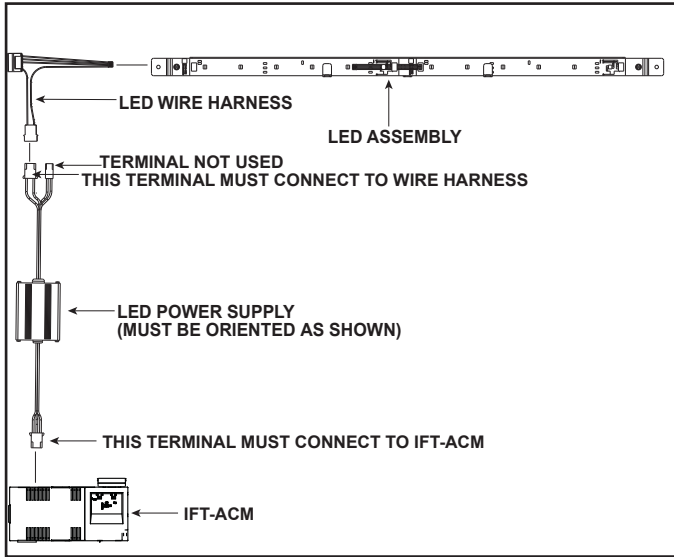

Figure 2. LED Wiring Diagram
NOTICE: Prior to performing Step 6 and Step 7, ensure the LED power supply is oriented as shown in Figure 2. Damage to LED power supply will occur if installed incorrectly.
6. Locate and install the LED power supply. Remove the rubber plug from the connector on the IFT-ACM labelled "LIGHTS" and insert the 120 VAC connector plug that is attached to the LED power supply. This connector has a black, white and green wire attached. See Figure 2.
7. Connect the LED assembly to the LED wire harness. Next, connect the LED wire harness to the larger connector on the LED power supply. The smaller connector is not used. See Figure 2. Place LED power supply on top of IFT-ACM and reinstall the heat shield with two screws.